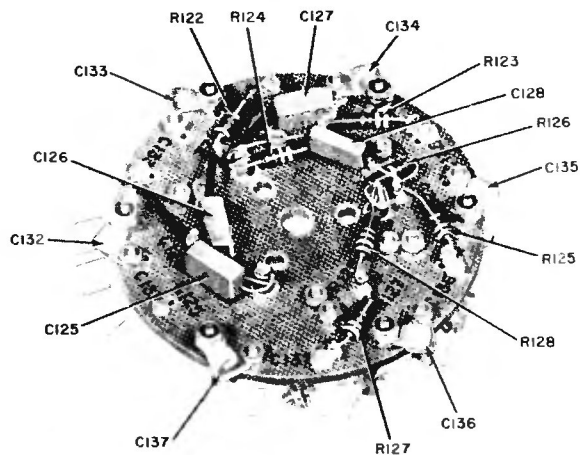

Figure 6-4. Oscillator Coil Turret,
e. REMOVING A COIL FROM THE TURRET. (See figure 6-4.) – Remove the two coil-bracket screws for the faulty coil. Unsolder the 3 coil leads. The coil and its holder are now free. Now, remove the coil from the holder by unscrewing the hex-nuts at the end. The replacement coil must be first attached to the coil-bracket, then the coil-bracket assembly is attached to the turret.